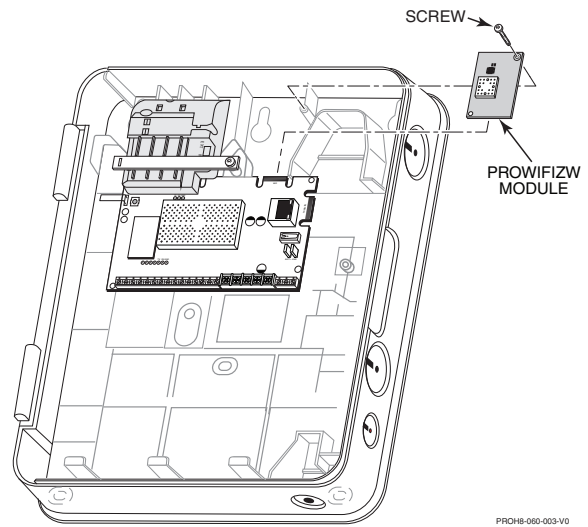

Figure 4. Installing the PROWIFIZW Module
5. Install the PROWIFIZW on the edge connector on the PCB (refer to Figure 4). Ensure the receptacle is securely seated on the edge connector.